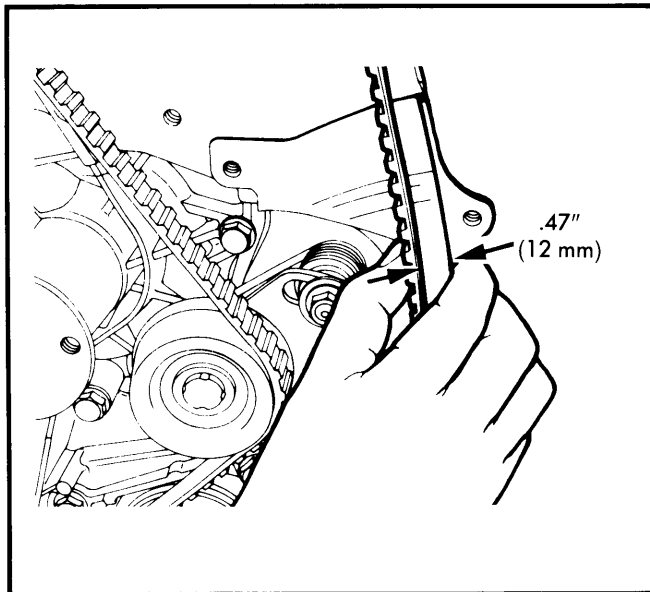
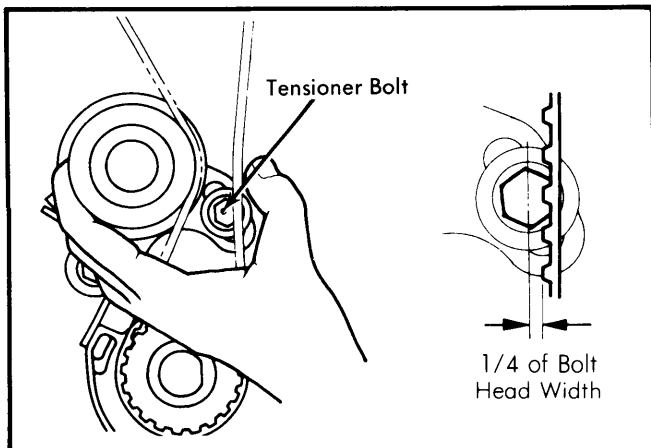

Fig. 10 Adjustment of Timing Belt Tension (1600 cc Engine)
Fig. 11 Confirming Timing Belt Tension (1400 cc Engine)
8) To verify that tension is correct, hold center of tension side of belt and line of timing under cover between thumb and forefinger (1600 cc). Clearance should be .47" (12 mm). Readjust if necessary. See Fig. 10. On 1400 cc engines, push in horizontally on tensioner and tension side of timing belt with moderate force. Timing belt cog end should be approximately 1/4 of the tensioner mounting bolt head width (across flats) away from bolt head center. See Fig. 11.